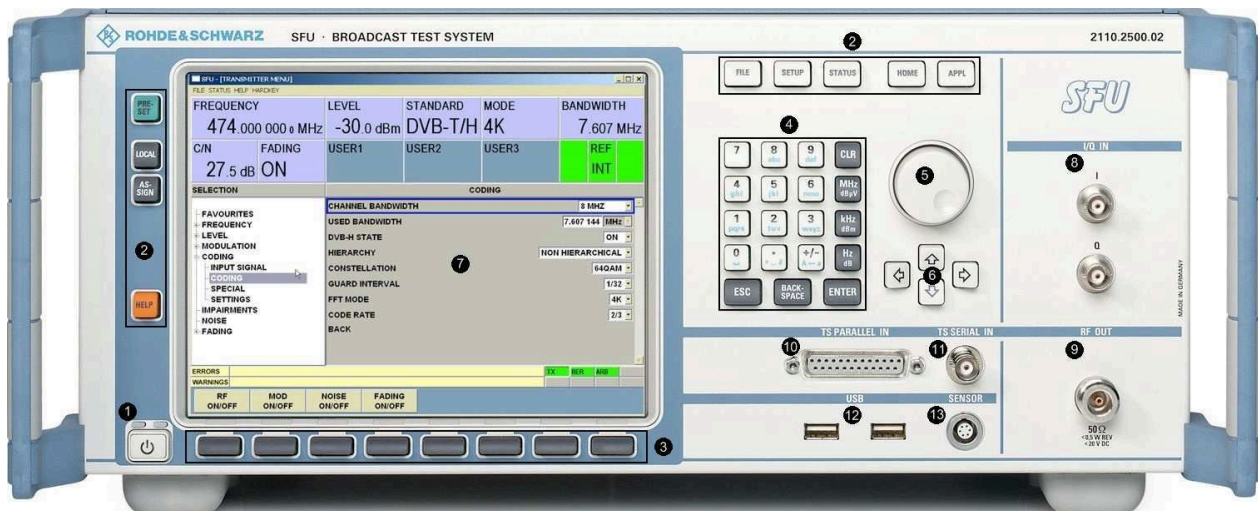

Fig. 3-1: Front panel view
See (1) in figure 3-1.
See (2) in figure 3-1 .
See (3) in figure 3-1 .
See (4) in figure 3-1 .
See (5) in figure 3-1 .
See (6) in figure 3-1 .
See (7) in figure 3-1 .
See (8) in figure 3-1 .
See (9) in figure 3-1 .
See (10) in figure 3-1.